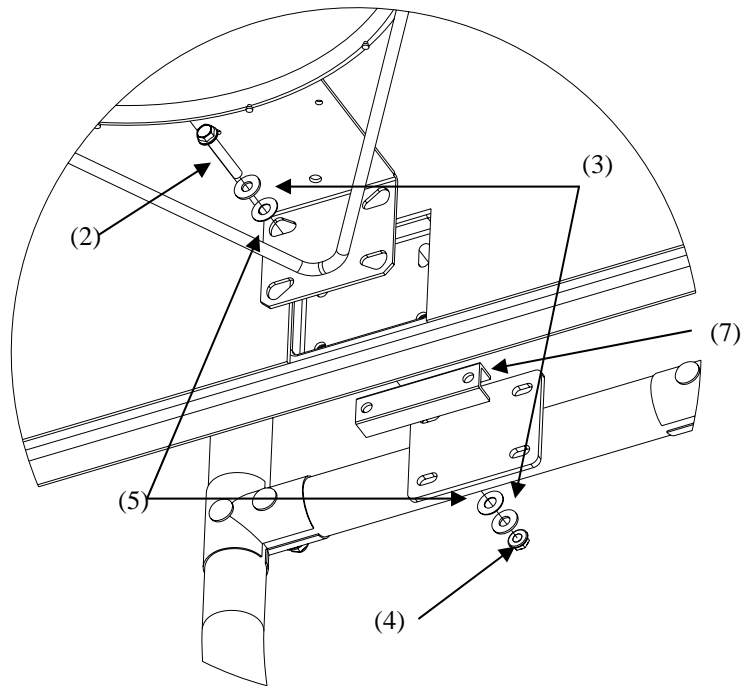

Figure 4
4. Place the insert support (7) between the cross-brace mounting plate (13) and the recess on the back side of the backboard. Be sure to position the insert support in the orientation shown in **Fig. 4** with the holes of the insert support facing the backboard. Position the rim as shown in **Fig. 4** and insert the 5/16" Flange Hex Bolts (2) with Nylon Washers (5) and Flat Washers (3) through the base of the rim. Secure using the Nylon Washers (5), Flat Washers (3) and 5/16" lock nuts (4). Do not fully tighten the hardware at this point. A 1/2" wrench will be needed for this step.